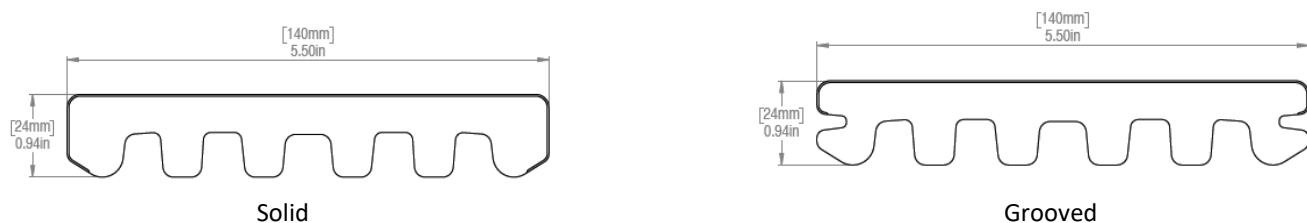

FIGURE 1 – ENHANCE® BASICS AND NATURALS DECK BOARD
3.2 TREX Enhance® Basics and Naturals solid and grooved edged boards measure a nominal 1 inch thick and 5-1/2 inch wide and have five flutes running the entire length along the bottom of the deck board. Grooved edge deck boards additionally include 5/16 inch deep by 1/8 inch high grooves on each of the long edges. See Figure 1.